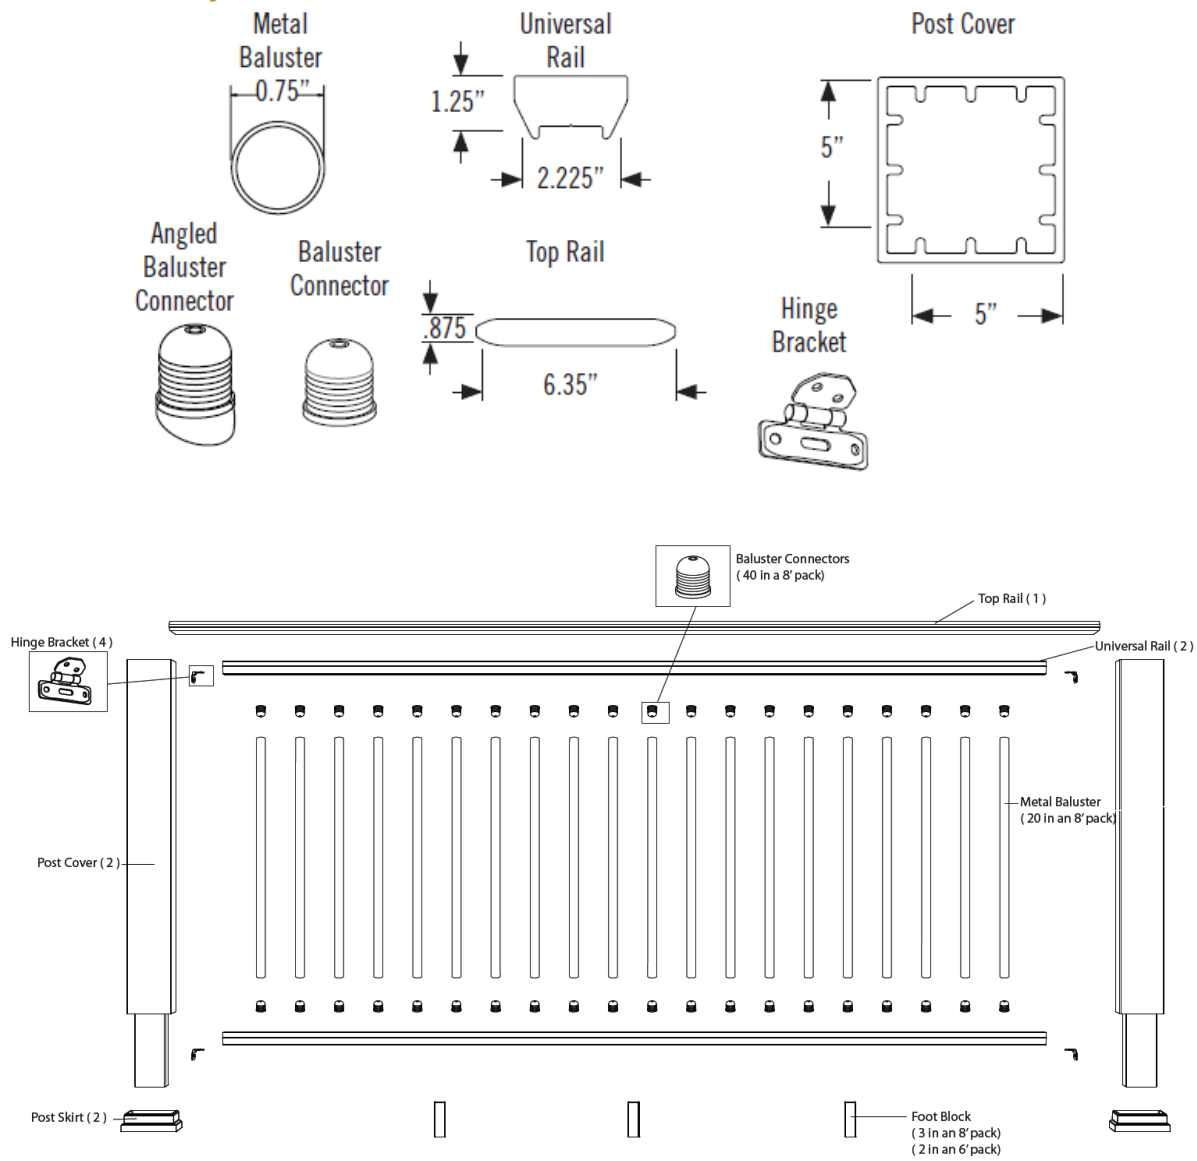

FIGURE 3 – EVOLUTIONS RAIL™ / CONTEMPORARY WITH STEEL BALUSTERS
0.75" diameter, hollow, galvanized Q195 steel balusters	Steel balusters are attached to the top and bottom rails utilizing nylon baluster connectors. Nylon baluster connectors are then attached to the top and bottom rails with M4.8 x 38.1 flat-head, coated carbon steel screws for the Contemporary rail or M4.8 x 50.8 flat-head, coated carbon steel screws for the rail Builder . Steel balusters are attached to the top and bottom rails utilizing the nylon baluster connectors. See Figure 3 & Figure 4.